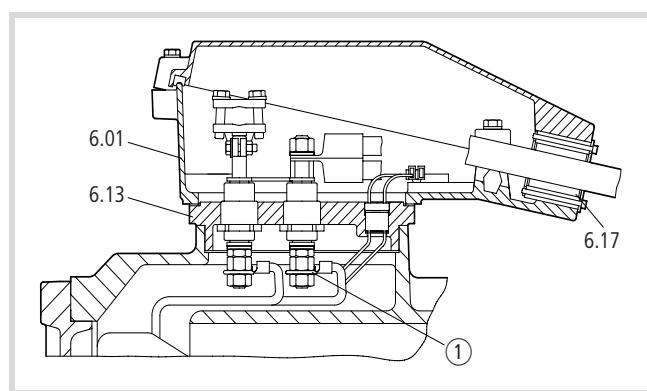

Figure 16: Terminal box with bolt-type gland
- Undo the retaining plate ① and nut (→ Fig. 16).